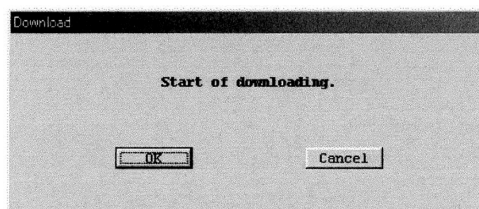

Fig.126
④ On seeing a message box like the one shown in Fig. 126, click on "OK" button if you want to download the data into the transmitter.